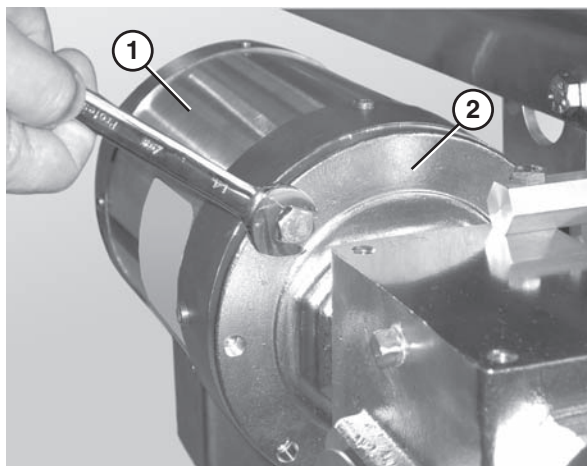

Figure 67
- Remove the bolts that connect the motor to the drive assembly (**Figure 67**).
- Remove the motor (**Figure 67, item 1**) from the drive assembly (**Figure 67, item 2**).